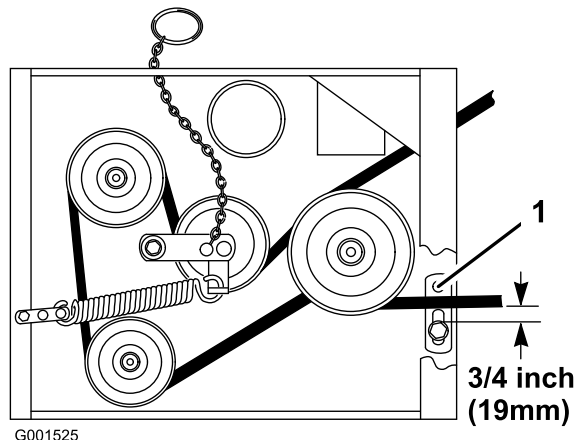

Figure 56
8. Check the belt guide under the engine frame for proper adjustment (Figure 56).
Note: The distance between the belt guide and the mower belt should be 3/4 inch (19 mm) when you engage the mower belt (Figure 56). Adjust the mower belt as necessary. The disengaged belt should not drag or fall off the pulley when the guides and belt tension are properly adjusted.